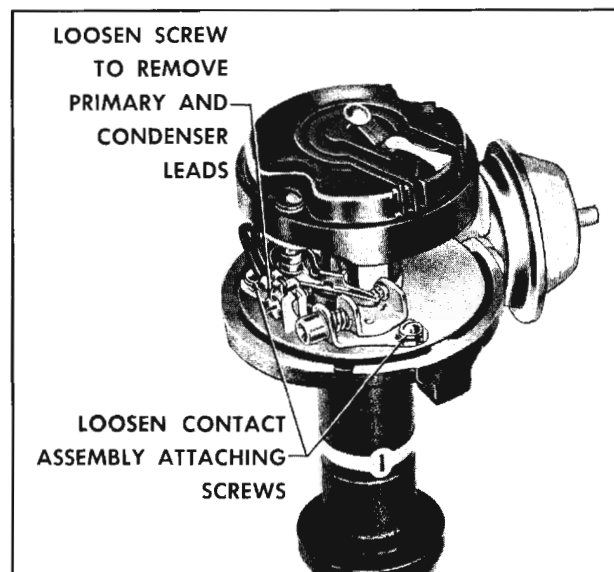

Fig. 14-46 Removing Contact Point Set
2. Loosen the two attaching screws which hold the base of contact set, turn and lift out the assembly. (Fig. 14-46)